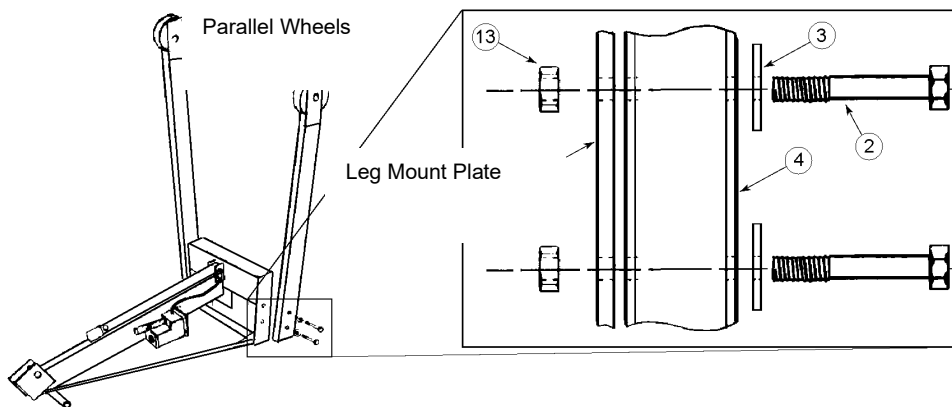

Figure 1 & Figure 2
Step 1: Step #1: Place tower on floor, push-handle down. See figure 1.
Step #2: Attach each leg (item 4) using two 3/8-16x3" grade 5 bolts (item 2), flat washers (item 3), and lock nuts (item 13) as shown. Wheels should be parallel when assembled properly. See figures 1 & 2.